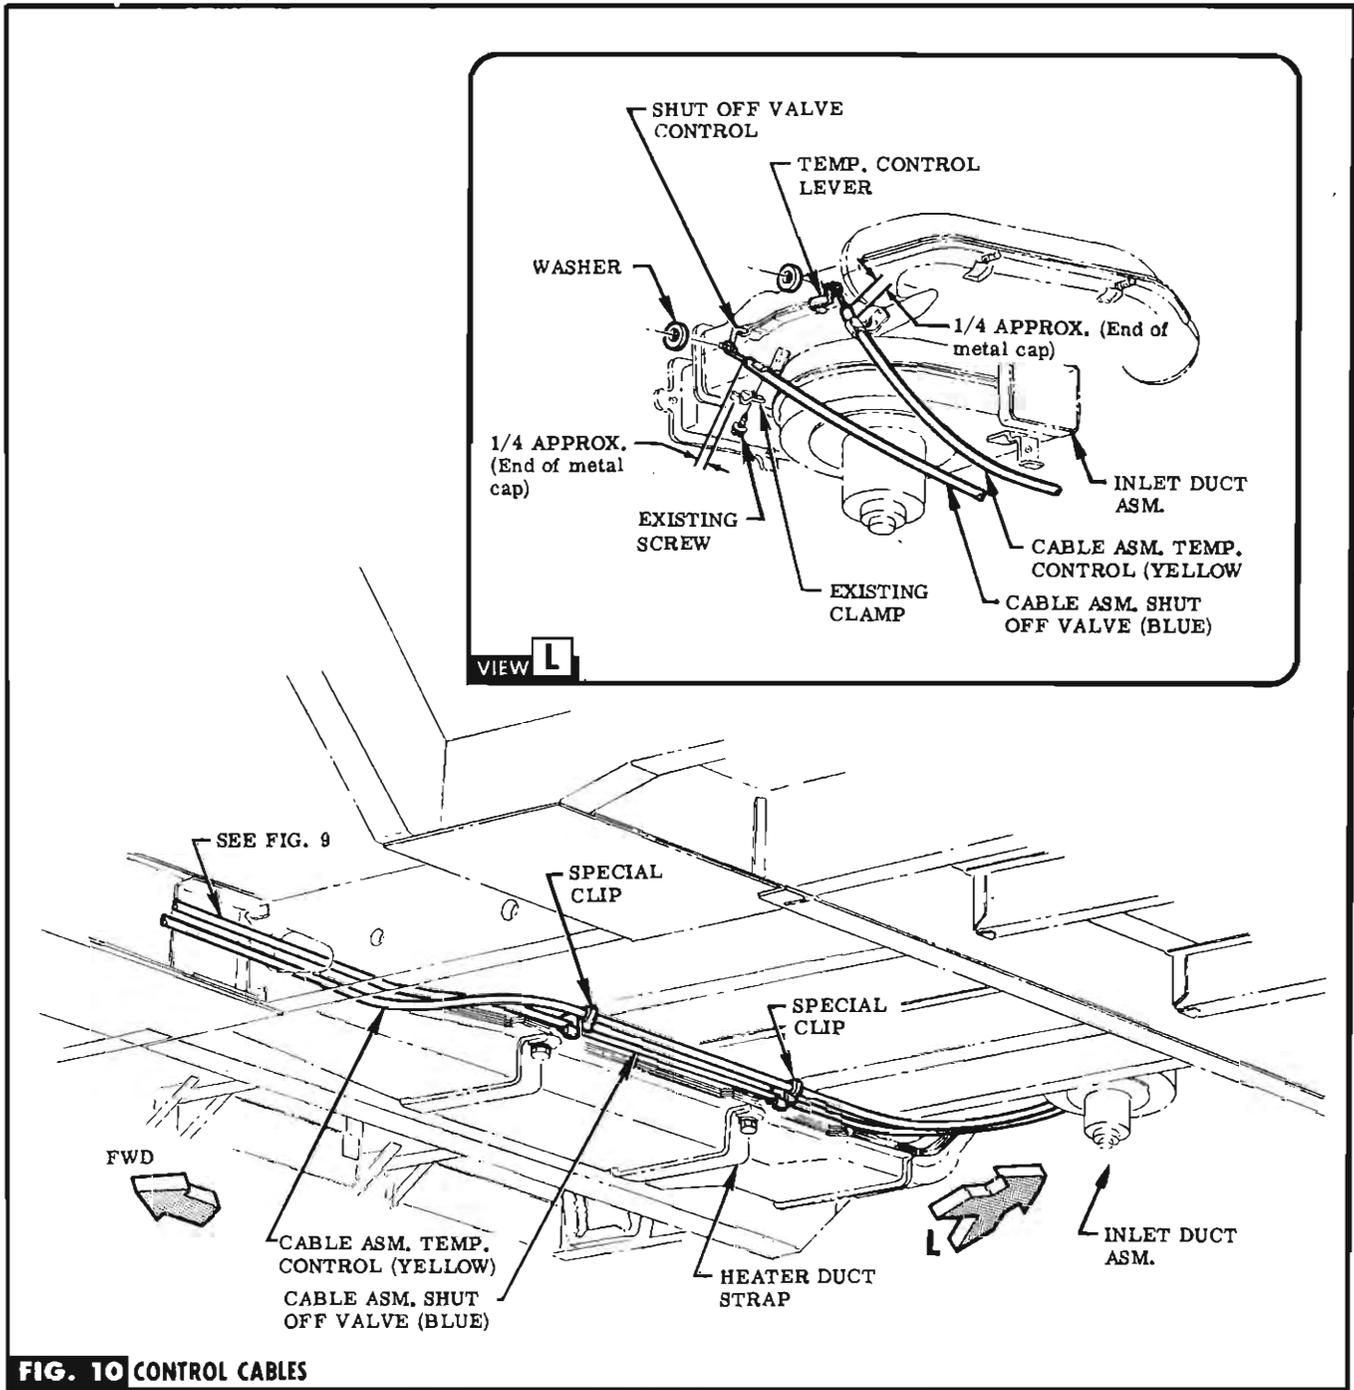

FIG. 10 CONTROL CABLES
STEP 48 INSTALL CLIPS (IN BAG B) TO INTERMEDIATE & REAR CROSS MEMBERS ALONG SIDE DUCT STRAP ATTACHMENTS. SEE FIG. 10.
THRU CLIPS JUST INSTALLED ON INTERMEDIATE & REAR CROSS MEMBERS. SEE FIG. 10.